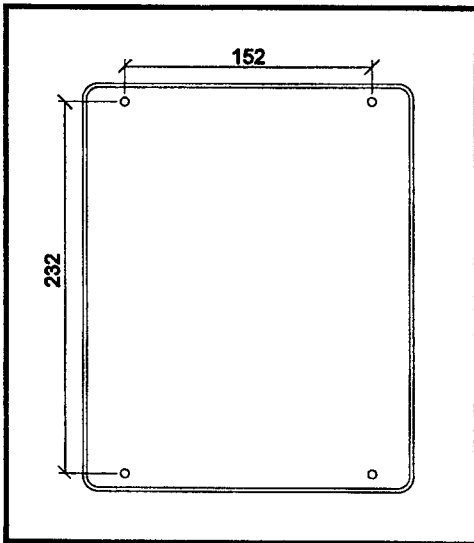
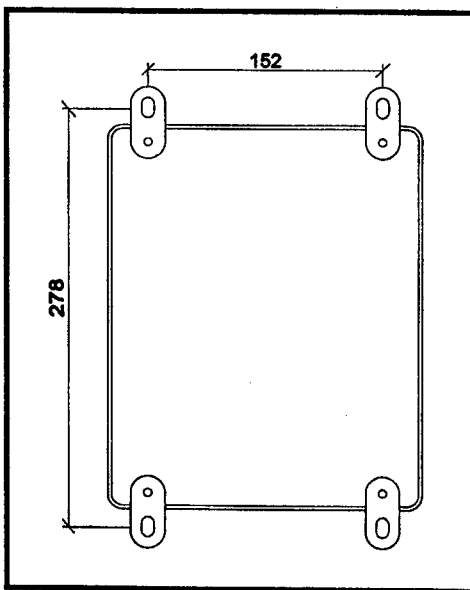

Figure 2-1
Figure 2-2
The Model 200 may be mounted by one of two methods. The mounting arrangement shown in Figure 2-1, is suitable for installations where the attaching screws can be inserted from behind the transmitter. Figure 2-2 shows the arrangement when using the supplied mounting kit. Either of these methods may be used without compromising the IP66 (NEMA 4X) rating of the enclosure.
- (b) Decide upon which of the two mounting arrangements shown opposite, is the most suitable for your particular application. Drill holes in the wall using the dimensions shown in Figure 2-1 or Figure 2-2. The screws supplied in the enclosed mounting kit, (i.e. #10-32 pan head) can be used for the standard mounting arrangement detailed in Figure 2-1, providing the panel thickness does not exceed 3mm. If using the arrangement shown in Figure 2-2, you must supply the necessary hardware to attach the unit to the wall. The slots in the mounting feet supplied can accommodate screws up to 7mm in diameter.